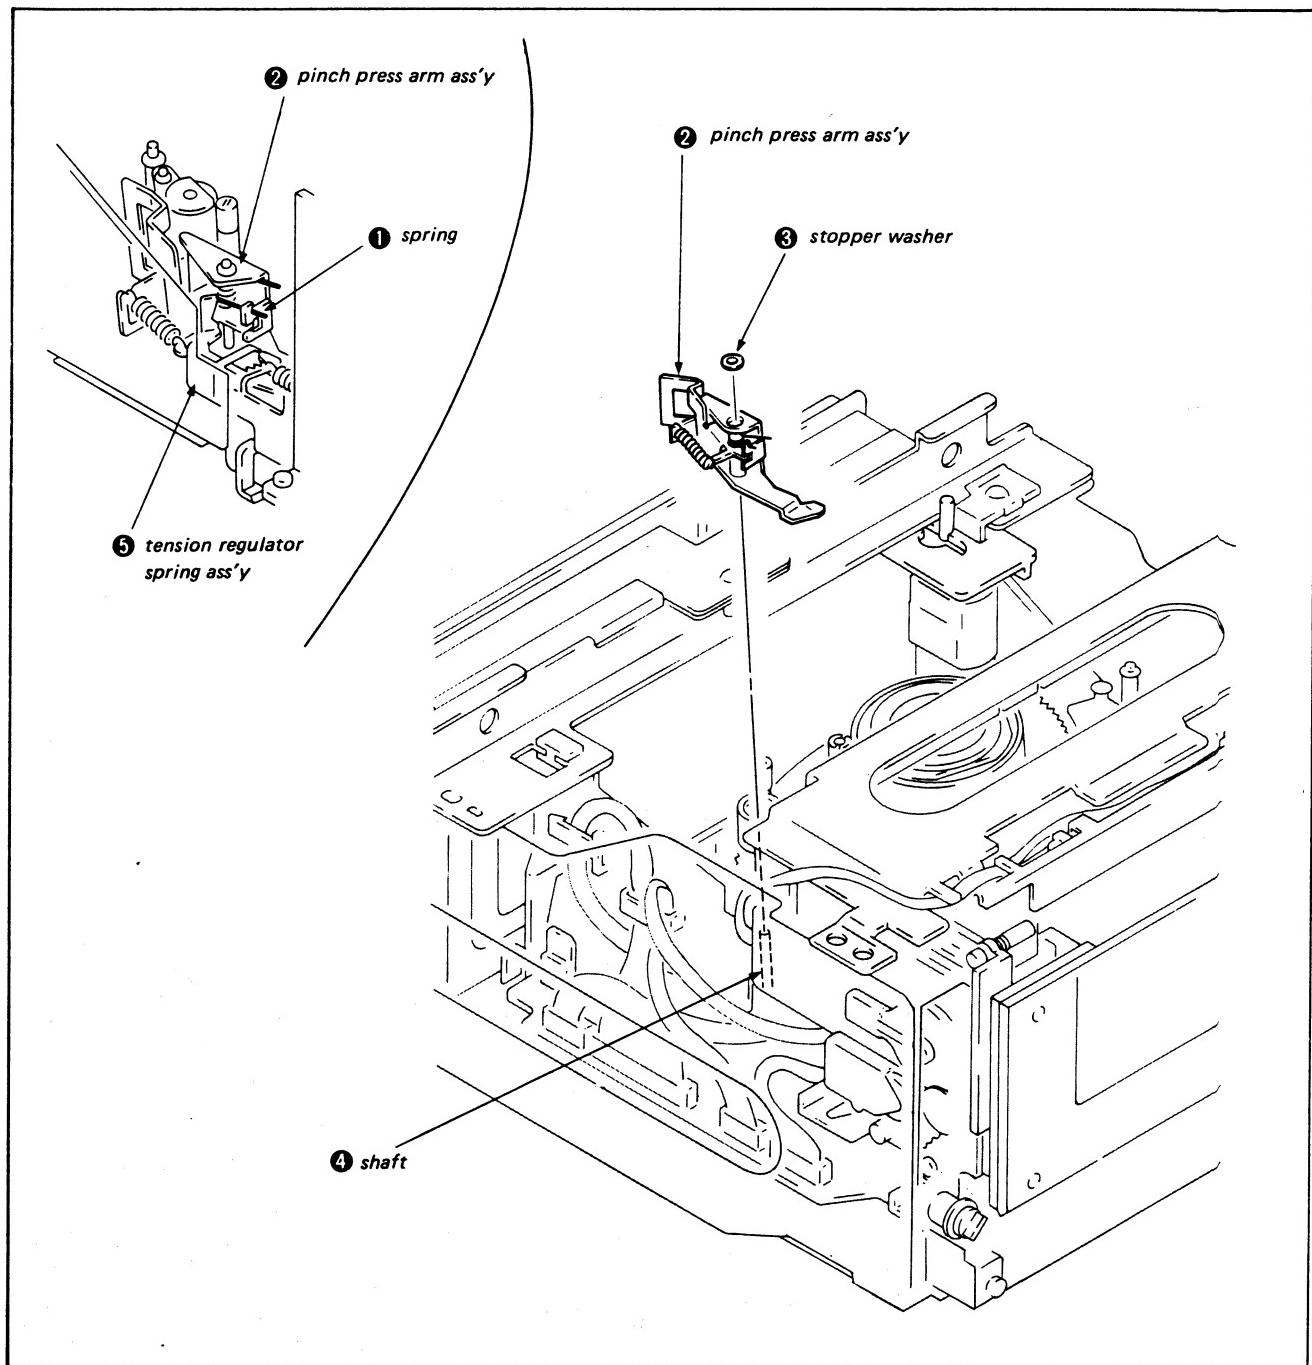
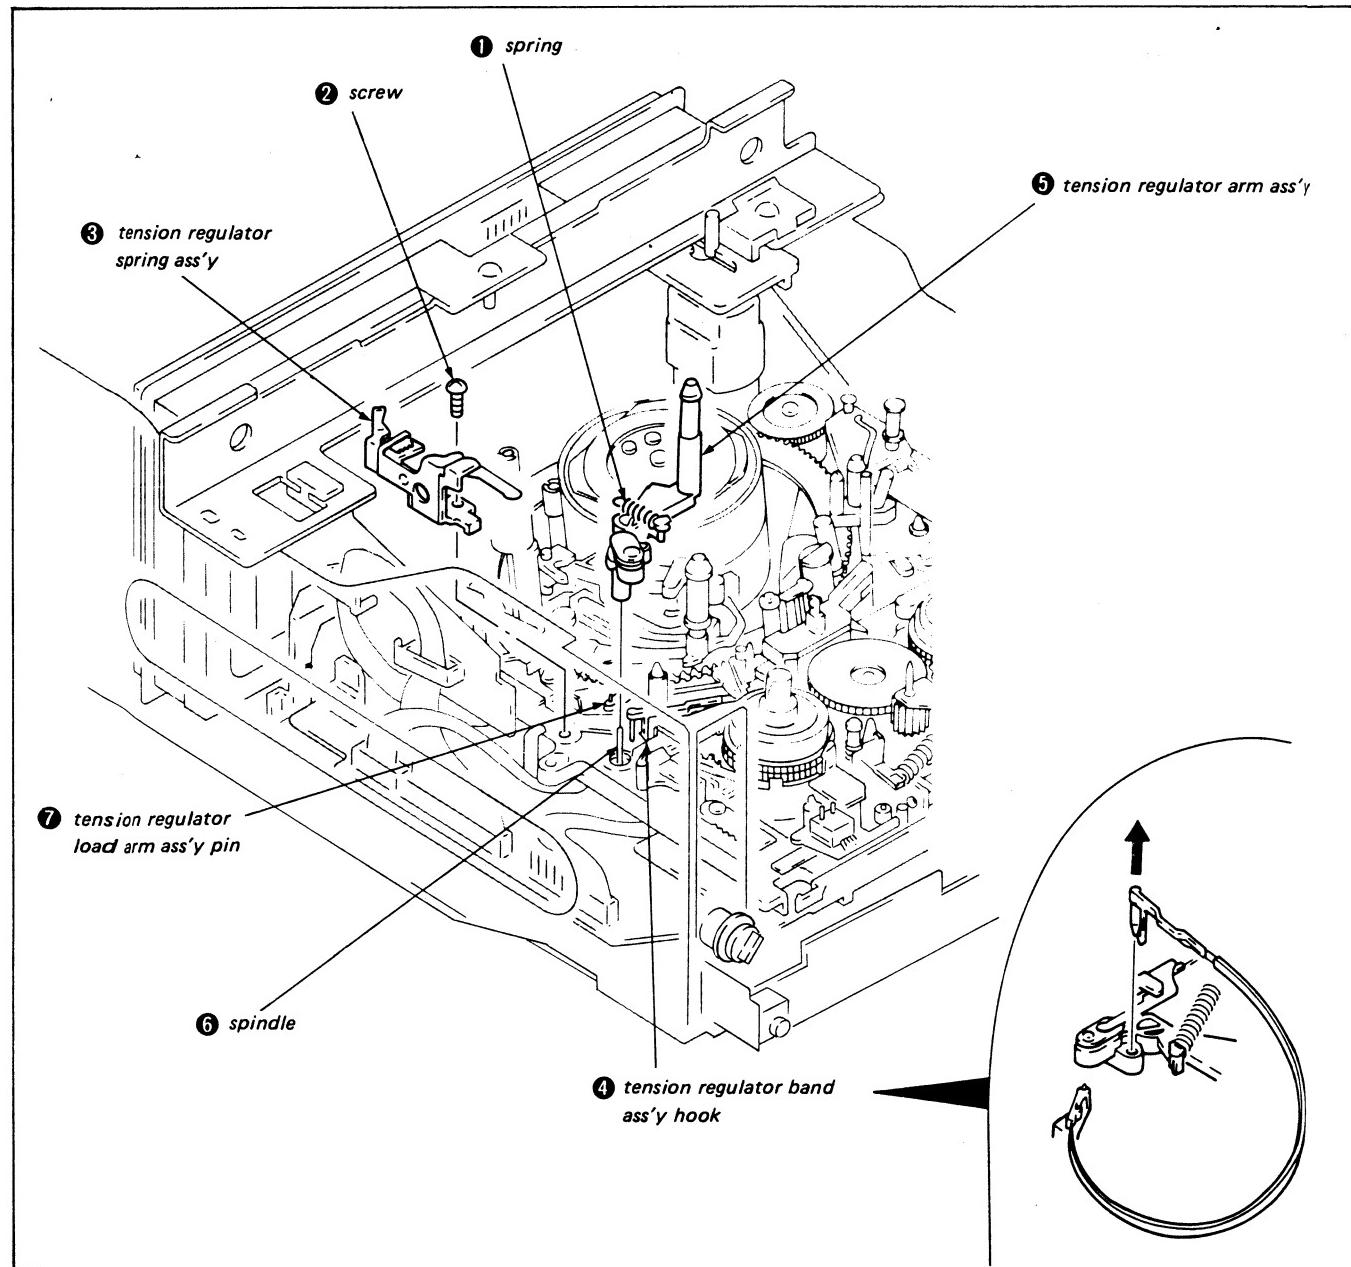

Fig. 3-3.
Fig. 3-4.
- 1) Place the spring ① on the pinch press arm assembly ②.
- 2) Remove the stopper washer ③ and the pinch press arm assembly ②. (See Fig. 3-3)
- 1) Place a half drop of oil on shaft ④.
- 2) Mount the pinch press arm assembly ② and the stopper washer ③.
- 3) Place the spring ① on the tension regulator spring assembly ⑤. (See Fig. 3-3)
- 2) Change the spring position as described in 3.3, 1. Removal, 1). (See Fig. 3-3)
- 3) Remove spring ①. (Note its position.)
- 4) Remove screw ② and the tension regulator spring assembly ③.
- 6) Remove the tension regulator band assembly hook ④.
- 7) Remove the tension regulator arm assembly ⑤. (See Fig. 3-4)
- 1) Place a half drop of oil on the shaft ⑥.
- 2) Mount the tension regulator arm assembly ⑤, placing the tension regulator load arm assembly pin ⑦ in the tension regulator arm assembly ⑤ cam groove (on the back).
- 3) Mount the tension regulator band assembly hook ④. (Do not touch the band or change its shape.)
- 5) Mount the tension regulator spring assembly ③ and tighten with screw ②.
- 6) Replace spring ① in its original position and lock the screws. (See Fig. 3-4)
- 7) Position the spring according to item 3.3, 2. Mounting, 3). (See Fig. 3-3)